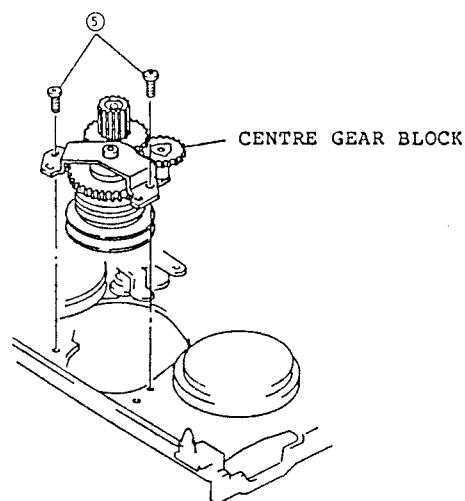

Fig. 2-77
5. Remove two (2) screws holding the centre gear block. (See Fig. 2-77)